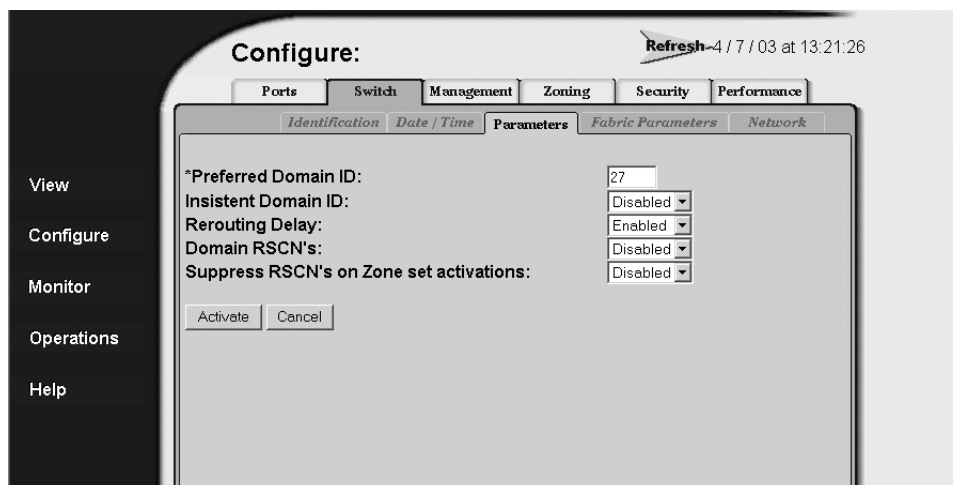

Figure 45: Switch page—Parameters tab
3. At the **Configure** panel, click the **Switch** tab, then select **Parameters**. The **Switch** page displays with **Switch Parameters** shown (Figure 45).